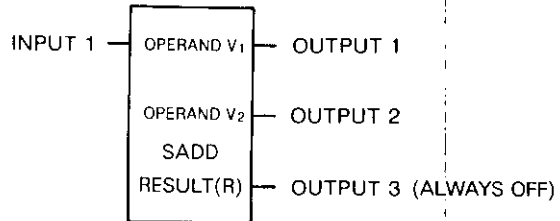

Fig. 5.41 SADD General Form
(2) Form
- Fig. 5.41 shows the form of SADD.